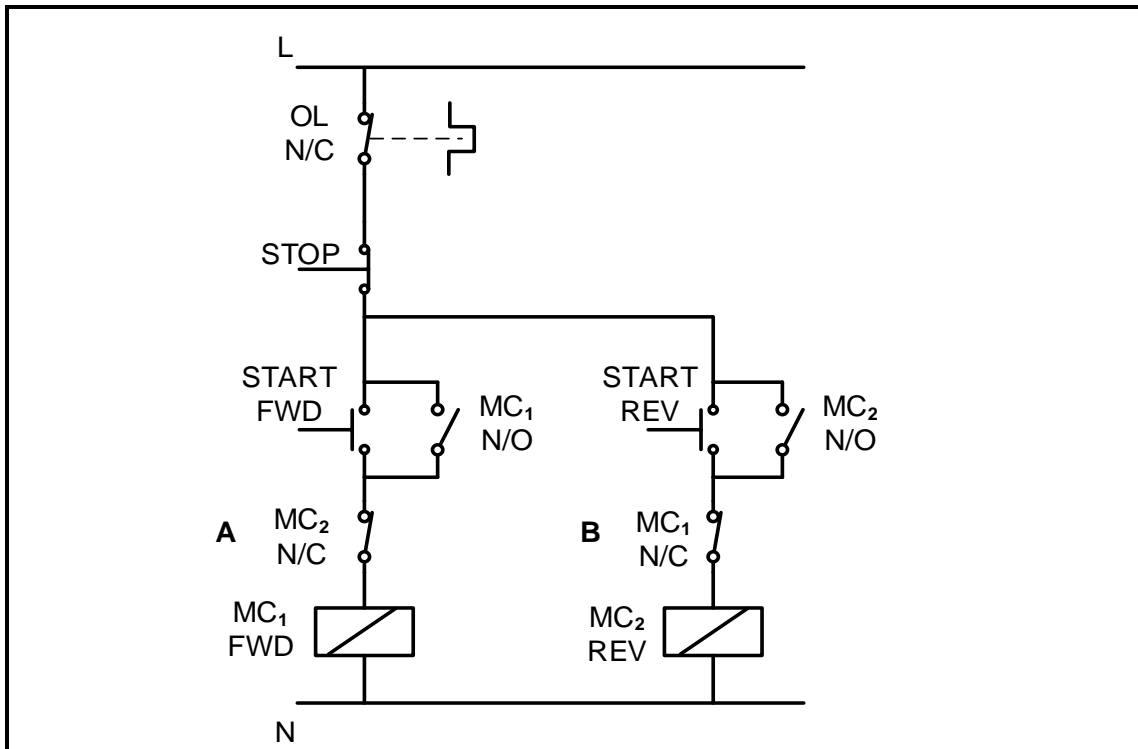

FIGURE 6.5: FORWARD-REVERSE CONTROL CIRCUIT
- 6.5 FIGURE 6.5 below shows the control circuit of a forward-reverse motor starter. Answer the questions that follow.